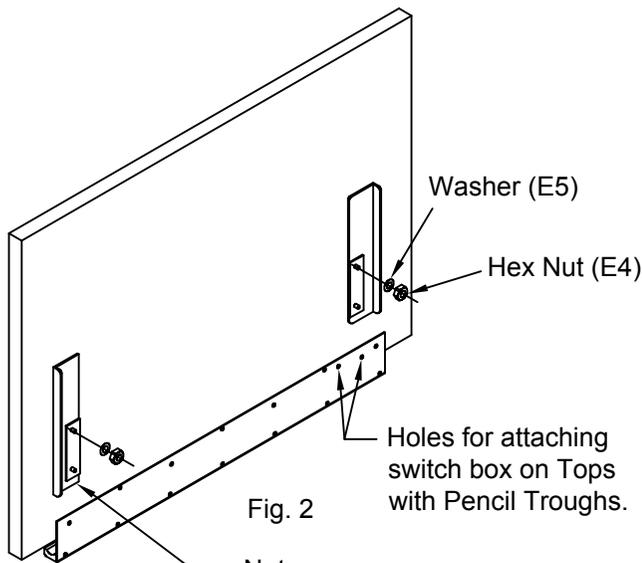

Fig. 2
2. Install Washer (E5) and 1/4-20 Hex Nut (E4) halfway onto the top two Carriage Bolts in the board brackets (Fig. 2).
3. Install Washer (E5) and 1/4-20 Hex Nut (E4) halfway onto the top two Carriage Bolts in the board brackets (Fig. 2).
7. Mount switch box to underside of Pencil Trough or work surface using two #10 x 5/8 Screws (E2). Use Cable Clamps (E1) and #10 x 5/8 Screws (E2) to secure switch cable (Fig. 2 & 3).
9. (220 v. UNIT ONLY) Attach Power Cord (H).